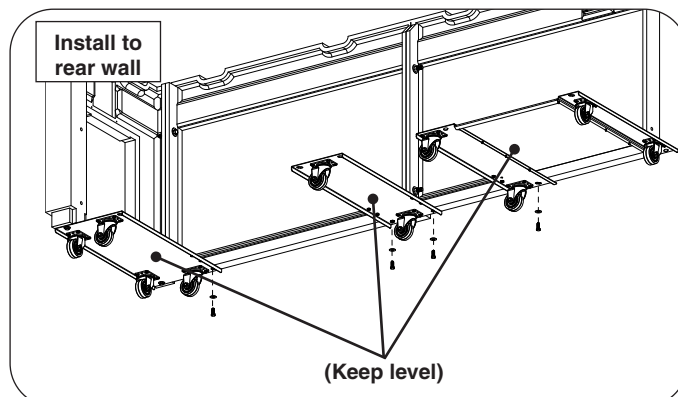

Fig. 6-3 Install wheel assemblies to bottom of rear wall
2. Repeat for the rear wall using the three wheel assemblies as shown in Fig. 6-3.